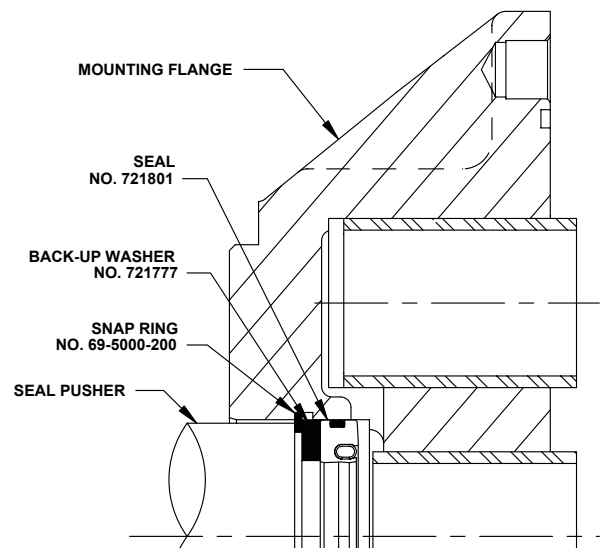

Figure 6A
5. Refer to figure 6A for inner high pressure seal. The "spring side" of the seal will face toward the bearing.